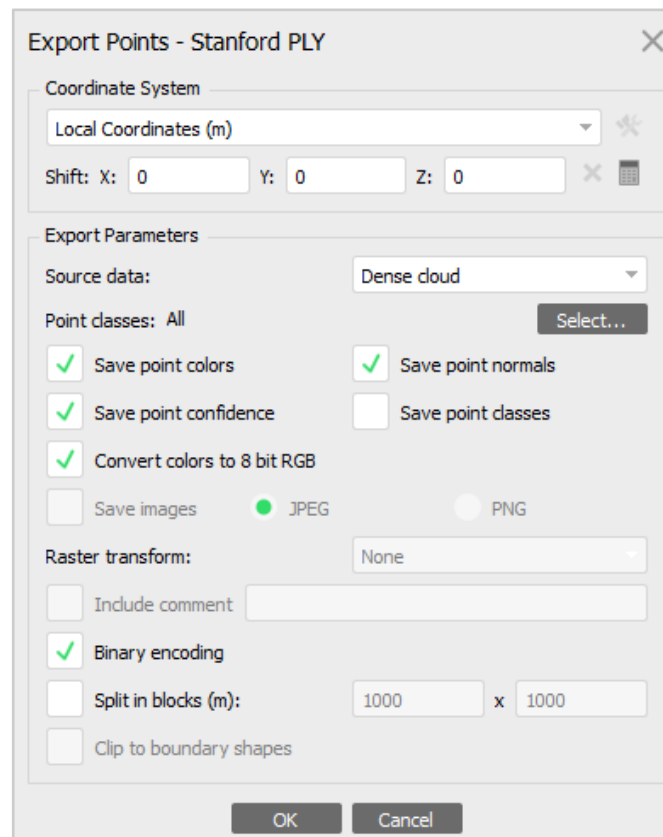

Figure 41. Export Points - Stanford PLY window with settings to export a .ply file as described in step 2.
2. A new window called **Export Points - Stanford PLY** will open. Change settings according to Figure 41, and click **OK**.